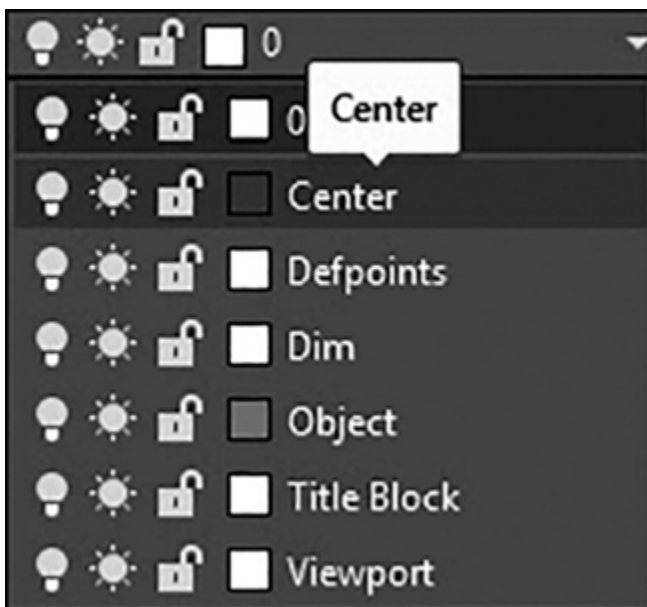

Figure 2-25
- 1 From the **Layers** panel, choose **Center** from the **Layer** drop-down list (see Figure 2-25). This sets the layer **Center** as the current drawing layer.